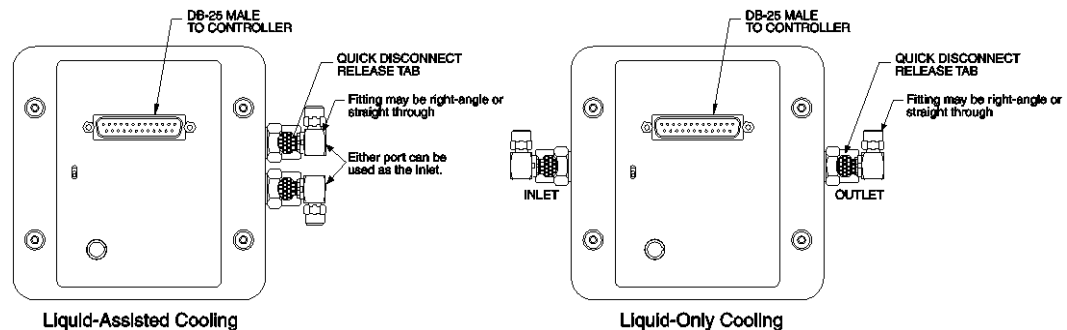

Figure 24. Coolant Ports
For best cooling, connect the inflow and outflow tubing to the ports as indicated in Figure 24.
- 6) Because of the automatic shutoffs, disconnecting the coolant supply is done by simply depressing the release tabs (Figure 24) and removing the fittings. Reconnecting the supply is done by reinserting each fitting into the appropriate valve body until you hear a click.
- 3) Because of the automatic shutoffs, disconnecting the coolant supply is done by simply depressing the release tabs (Figure 24) and removing the fittings. Reconnecting the supply is done by reinserting each fitting into the appropriate valve body until you hear a click.